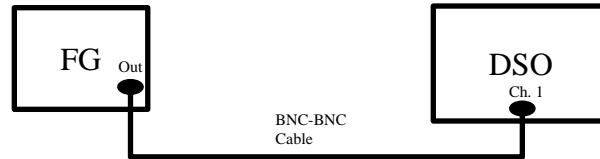

Figure 1
1. Connect the output port of your Function Generator (FG) to Channel 1 of the Oscilloscope (DSO). Use a **BNC-to-BNC cable** to connect the two instruments, as shown in Fig.1 below.